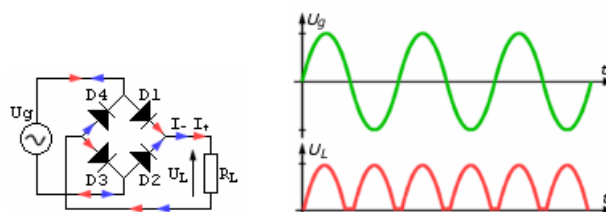

Fig.2. Schematic diagram of full-wave rectifier circuit and oscillograms of input U_g and output U_L voltage signal [4].
2. Use the jumpers to select the full-wave mode of rectifier (see Fig. 6b). Draw the related oscillograms – see Fig. 2.